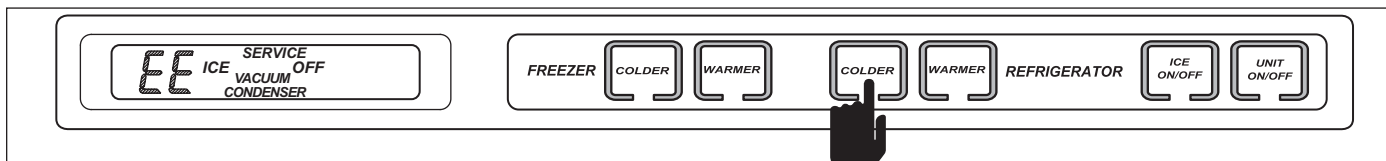

Figure 3-35. While in Diagnostic Mode Press COLDER Key
1. While in diagnostic mode, If "EE" is displayed in place of a temperature reading, the thermistor in that location is either faulty or the electrical line is separated. (In this example, the refrigerator evaporator thermistor is faulty.) (See Figure 3-35)